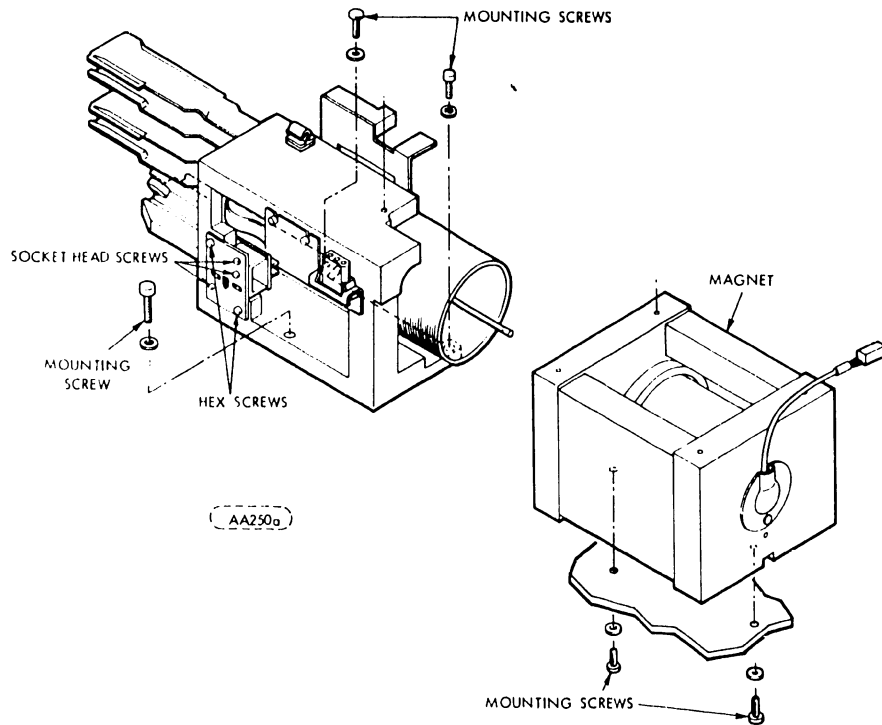

FIGURE 6-3. ACTUATOR, MAGNET AND EOT MOUNTING
13. Remove two screws that fasten the magnet to the main deck. Screws are located underneath the base casting, one screw in back of magnet and one in front (see Figure 6-3).
19. Using 9/64 ball Allen driver, remove the three mounting bolts from the actuator frame securing the actuator to the deck (see Figure 6-3).
2. Using 9/64 ball Allen drive, install the three mounting bolts securing the actuator to the deck (see Figure 6-3).
7. Fasten magnet to the main deck with the two mounting screws (see Figure 6-3).
7. On EOT assembly bracket remove top and bottom mounting hex screws (see Figure 6-3).